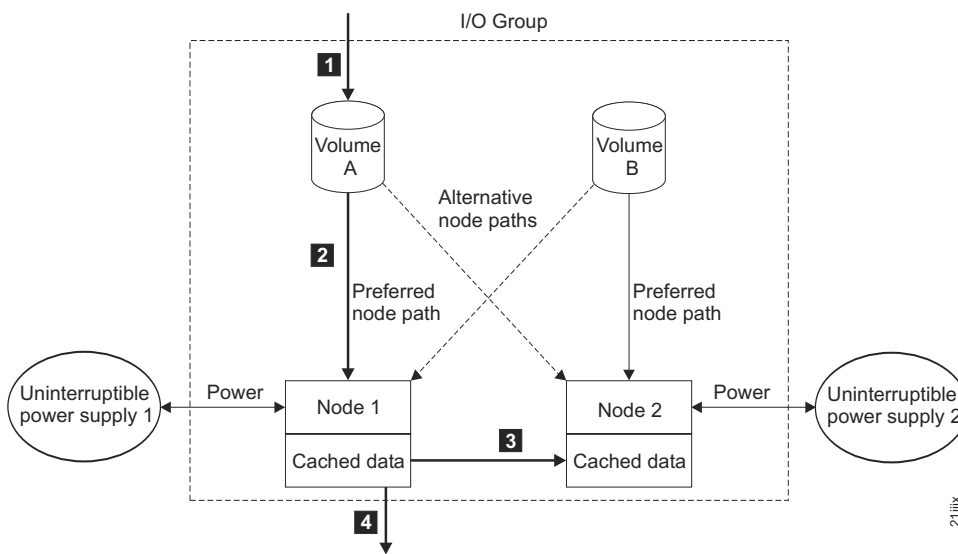

Figure 7. I/O group and uninterruptible power supply
t Figure 7 shows a write operation from a host (1), that is targeted for volume A. This write is targeted at the preferred node, Node 1 (2). The write is cached and a copy of the data is made in the partner node, Node 2's cache (3). The host views the write as complete. At some later time, the data is written, or de-staged, to storage (4). Figure 7 also shows two uninterruptible power supply units correctly configured so that each node is in a different power domain.